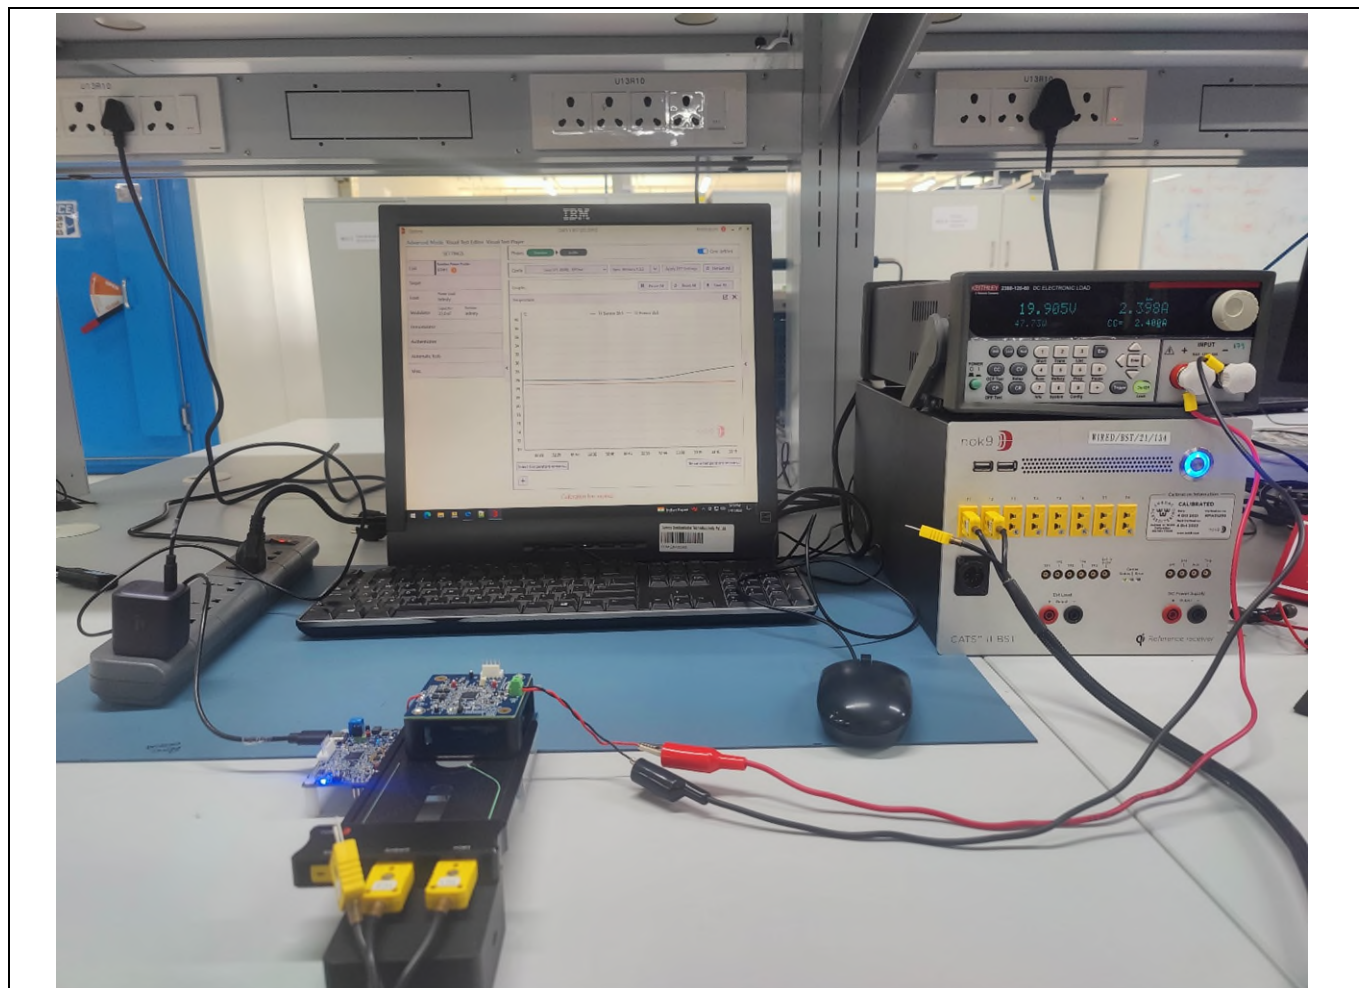

Figure 33 FOD verification for Infineon High Power Receiver
- Ensure the FO temperature must not go beyond 60°C. Measure the temperature through NOK9 as shown in Figure 33.